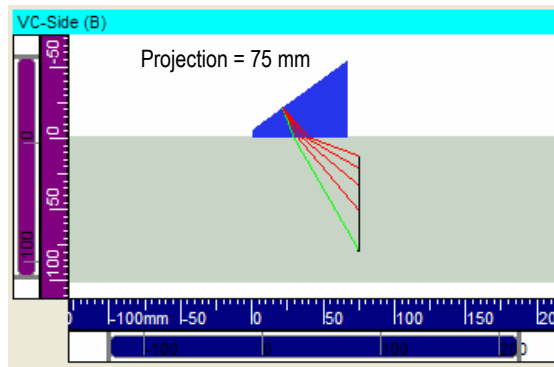

Figure 4-26 Projection focalization
- **Projection:** all beams are focused on a given vertical plane (see Figure 4-26 on page 59); this option is not applicable for depth laws, for DDF (dynamic depth focusing) laws, and for pitch-and-catch configurations.
- **Projection:** the first **Offset** box is used to define the position, in scan or in index (depending on the skew angle of the probe) of the vertical focal plane (see Figure 4-26 on page 59).